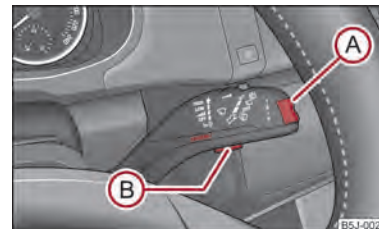

Fig. 7 Information display: Control elements
- You can activate the **Main Menu** by pressing the rocker switch **(A)** ⇒ fig. 7 for more than 1 second.